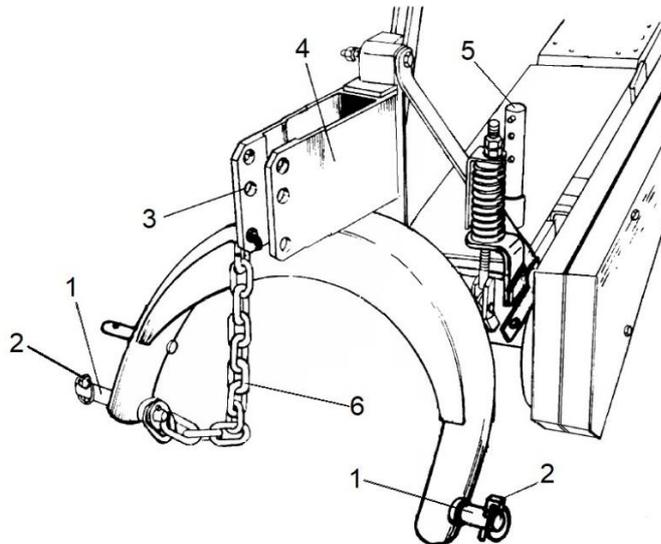

Fig. 3. Mower linkage frame: 1 - linkage frame lower pivot, 2 - linchpin, 3 - openings in linkage frame yoke, 4 - linkage frame yoke, 5 - support, 6 - chain.
The mower should be attached to tractor with use of 3-point linkage frame. The mower should be in transport position. Attachment points on mower linkage frame are presented in Fig. 3.
- install ball-and-socket joints of tractor lower links (first left and then right one) on linkage frame pivot (1) (Fig. 3) and secure them using linchpins (2);
- insert joint end of upper link in-between yoke plates (4) (using upper or middle openings (3), and then connect with pin and secure with linchpin (2);
- raise support (5) and secure with split pin;
- install chain (6) in upper transport hitch or its bracket (see section. 6.6. Mower adjustment rules).